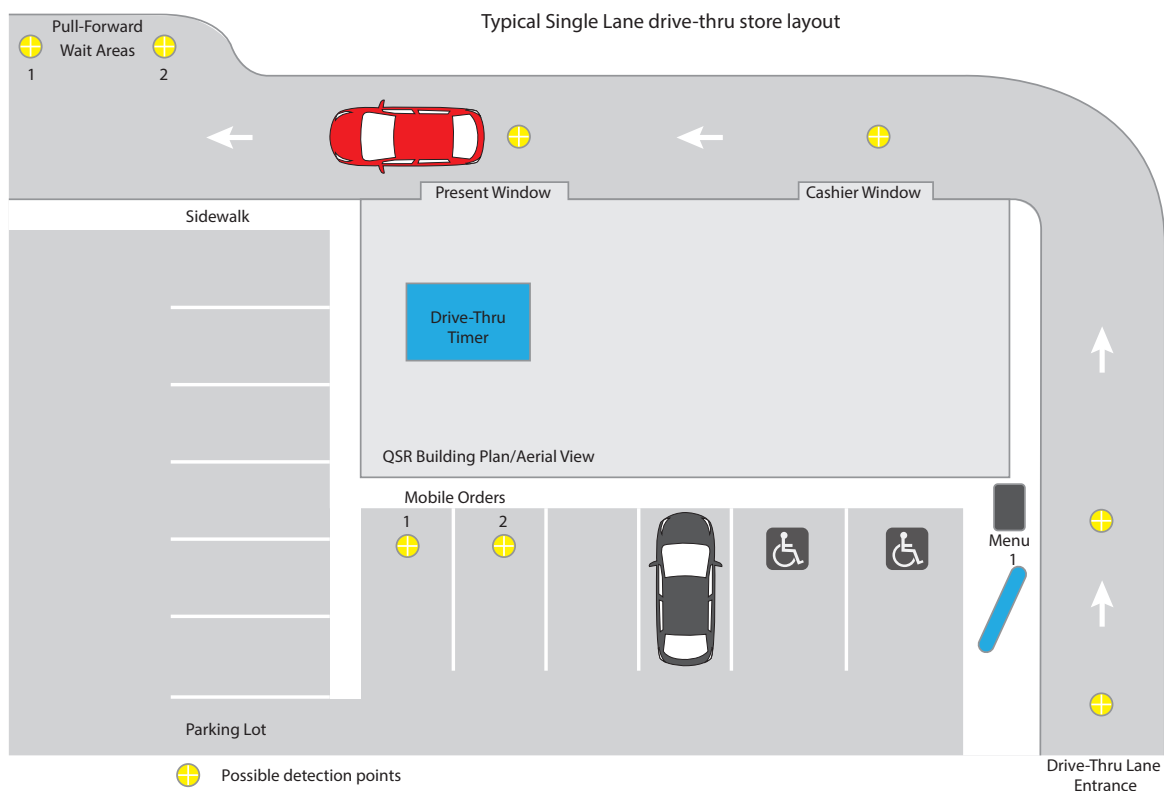
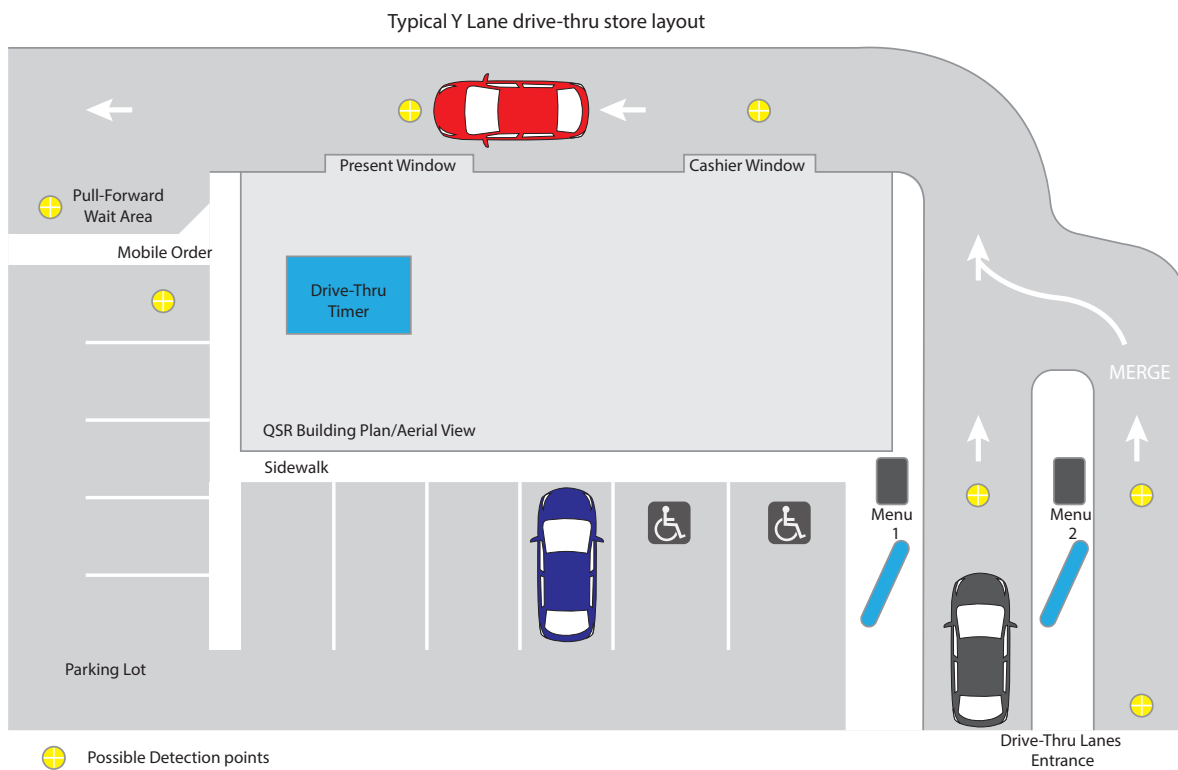

Fig. 1.4
Fig. 1.5
- Mobile Order/Pull Forward/Wait Areas: Vehicle detection occurs off to the side of a lane or in a reserved parking space designated by the restaurant or store. Figure 1.4 shows two Pull-Forward/Wait Area stalls and two Mobile Pickup spaces. Figure 1.5 shows one of each.
Figures 1.4 and 1.5 illustrate examples of typical drive-thru layouts. Detection points (indicated by the circular yellow markers) can be installed at various strategic locations. These detection points can be cameras, in-ground loops, or a combination of both. You can label each detection point on your Dashboard. Common labels include Arrival, Greet, Menu, Order, Cashier, Pay, Present, Service, Mobile Order, Pull-Forward/Wait Area.